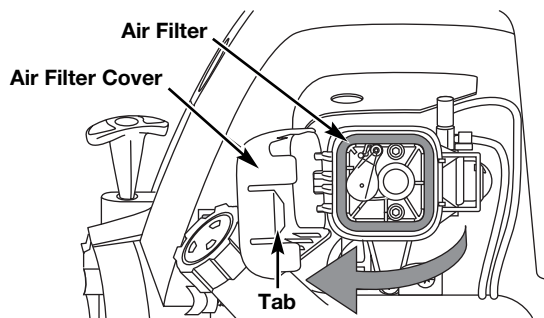

Fig. 26
1. Open the air filter cover. Push the tab on the right side of the cover inward. Then pull the air filter cover out and to the left (Fig. 26).
2. Remove the air filter (Fig. 26).